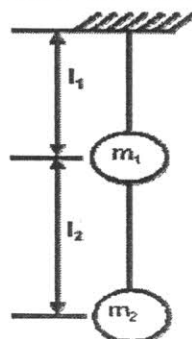

Fig. 8(a)
8. a) Set up the differential equation of motion for the system shown in Fig. 8(a) and hence derive the frequency equation & obtain the two natural frequencies. Assume, $m_1 = m_2 = m \text{ kg}$ & $l_1 = l_2 = 1 \text{ m}$.